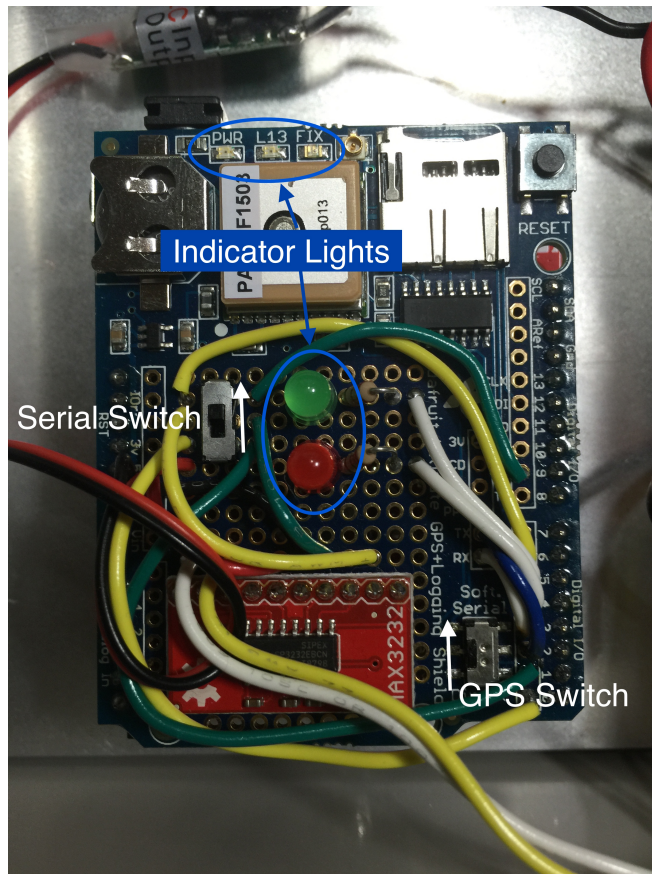

Figure 1: Essential controls and indicators in the logger box.
12. Ensure that the GPS and tilt serial switches are in the positions shown in figure 1.